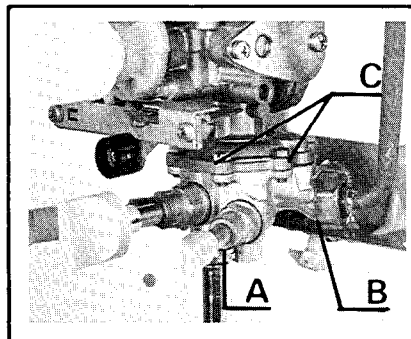

Fig. 6
9) Diaphragm (fig. 6).
- Remove the governor situated in the base of the water section A (fig. 6).